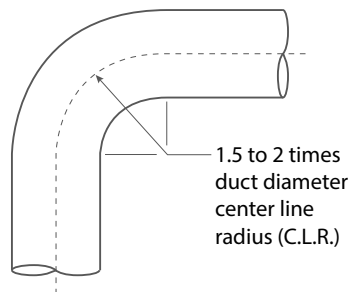

Fig. 15: Bend radius for elbows and/or bends
- All elbows and/or bends must have bend radius at least 1.5 to 2 times duct diameter (Fig. 15) as specified in Setting up Exhaust Management Method sections below.